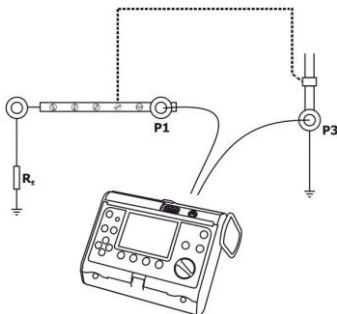

Fig. 17. Connection of the meter
- connect the meter with cables to the network socket of the board in accordance with Figure 17,